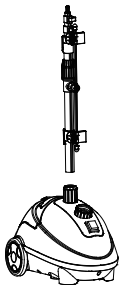

FIG 1
4. Make sure the bottom clips are forward to the switch, place the rod into the rod receptacle on the unit. Make sure the rod lock nut is loose. Turn it to the left to loosen it. (FIG 1)